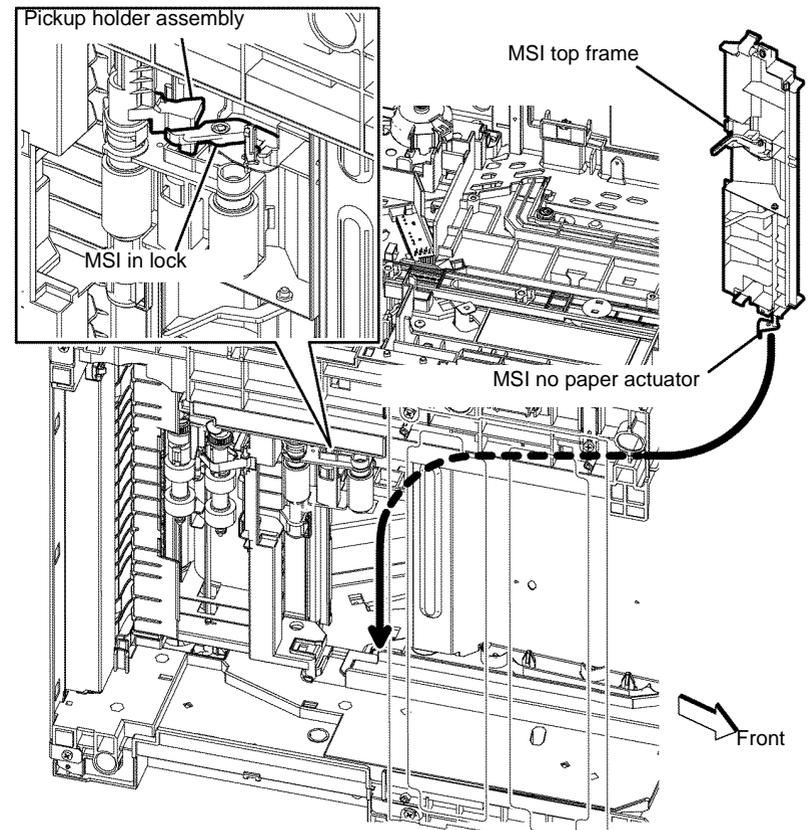

Figure 7 MSI top frame installation
4. When installing the MSI top frame, position the printer to be resting on its right side. Ensure that the MSI no paper actuator, coupled with the MSI top frame fits into the hole on the printer and the MSI in lock touches the pickup holder assembly, Figure 7.